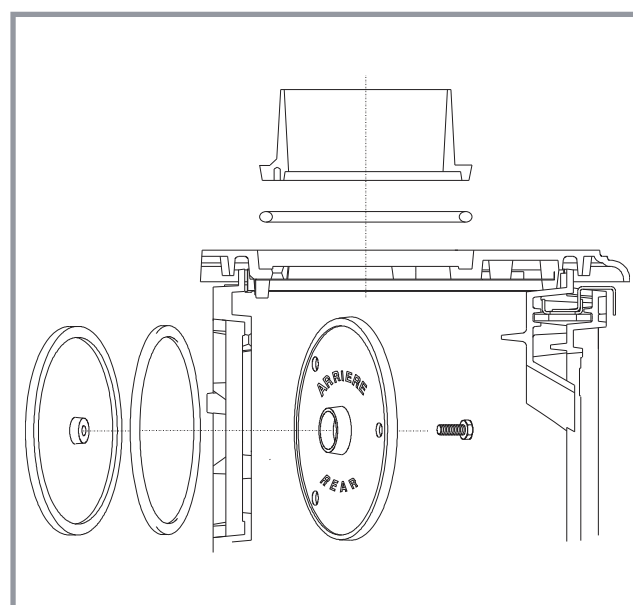

Figure 4 - Smoke exit on the top
2.4.1. Smoke exit on the top (figure 4)